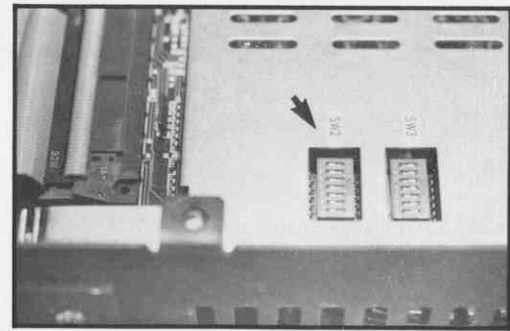

Figure 101 SW2 Switches
- 6.44 Figure 101 shows the switches at position **SW2** on the disk drive housing.